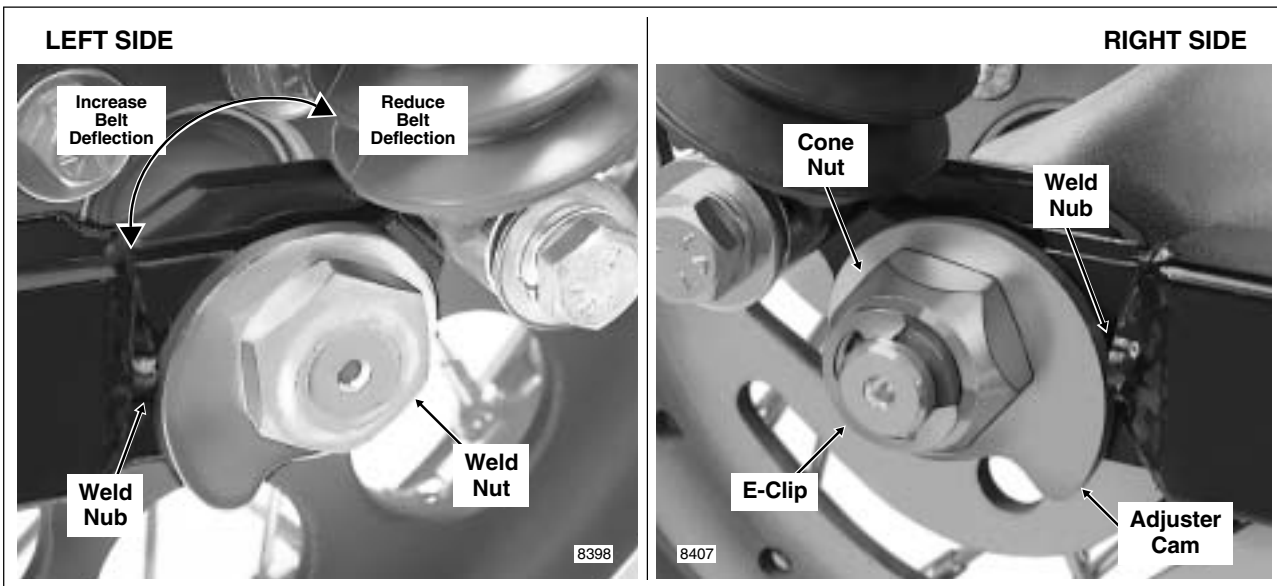

Figure 1-14. Move Rear Wheel Forward Until Adjuster Cams Just Contact Weld Nubs
5. Standing on right side of vehicle, remove E-clip from groove at end of axle. Loosen cone nut, and then snug to 15-20 ft-lbs (20-27 Nm). See Figure 1-14.
- c. Push wheel forward slightly so that adjuster cam just contacts weld nub on both sides of rear swing-arm. See Figure 1-14.